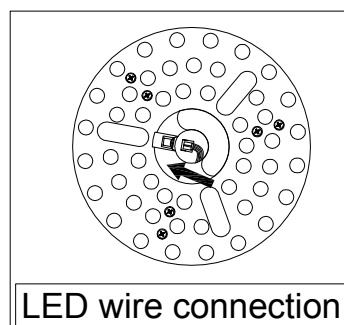

Figure 6.2
- Connect the bottom terminal of the motor to the LED aluminum substrate.(Figure 6.2)